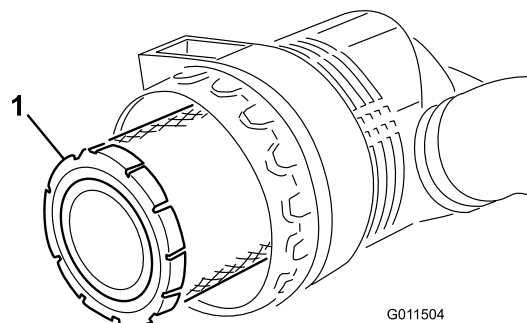

Figure 50
3. Remove and replace the filter (Figure 50).